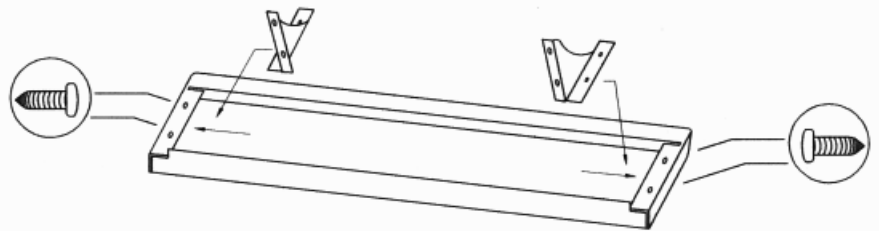

FIG.1
- 2 Take one of the end brackets, position as shown in Fig. 1, ensuring the "lip" of the end bracket is underneath the "lip" of the shelf body.